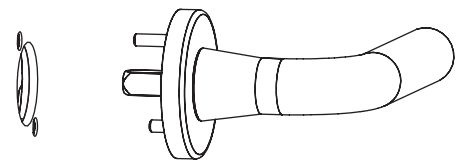

Figure 5
1. Insert uninstalled outside mortise trim and rotate to verify top and bottom latches retract flush with door. Do not install mortise trim at this time. (Figure 5)